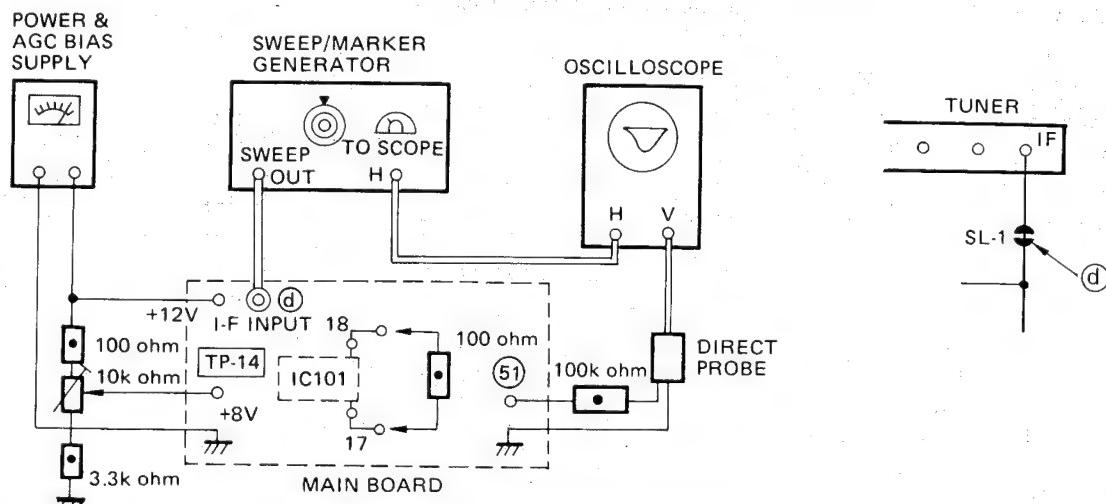

Figure 7. Picture I-F Sweep Alignment
- GENERAL** Refer to Figure 7 for test equipment connection.
- PRELIMINARY STEPS** 1. Disconnect the solder link SL-1 (- - - see Figure 7) on the foil side of the Main Board.
- SWEEP/MARKER GENERATOR** Connect to the point (d) as shown in Figure 7 on the Main Board.
PRELIMINARY STEPS 1. Disconnect the solder links SL-1, SL-3, SL-4 (see Figures 7 and 10) on the foil side of the Main Board.